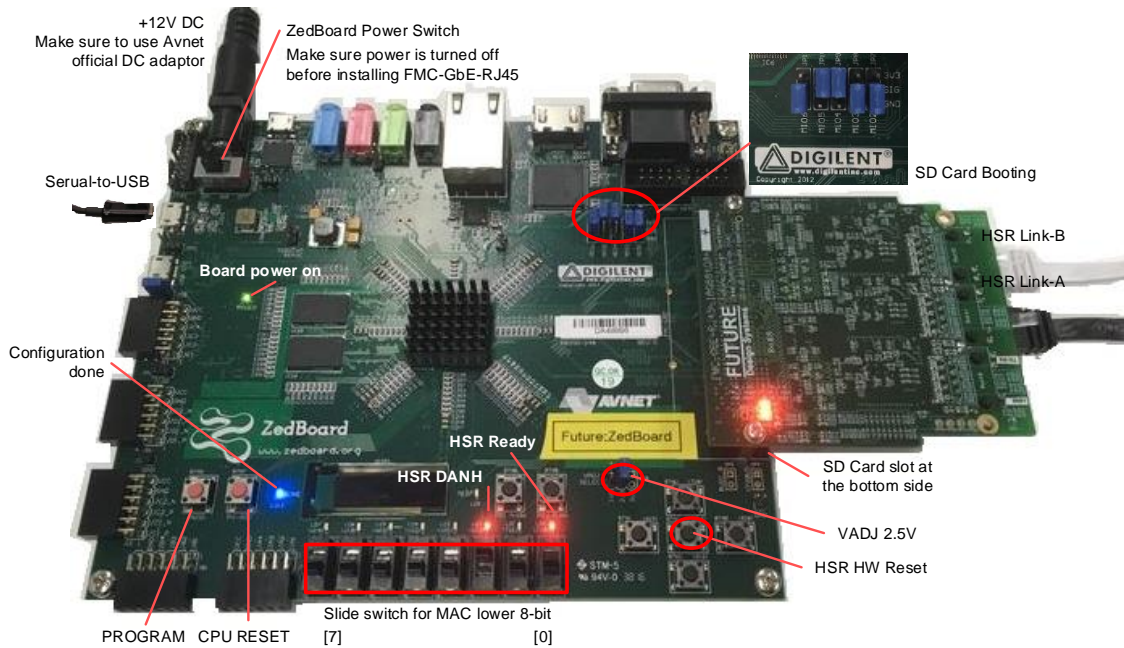
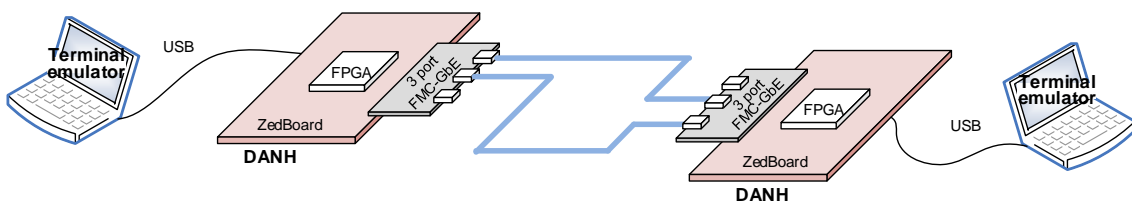

Figure 7: ZedBoard and FMC-GbE-RJ45
Figure 8: Two DANH conceptual
- ✧ Make sure Booting mode selection switches are properly set as shown in Figure 7.
- ✧ Two LEDs should be on as shown in Figure 7; one for HSR ready and the other for DANH indicator.
When all has been done as shown in Figure 7, a HSR system shown in Figure 8 can be set up using two DANH. In addition to this, USB-to-Serial connections are required to interact with ARM processor. Make sure that FMC-GbE-RJ45 port 1 and port 2 are connected (do not use port 0).